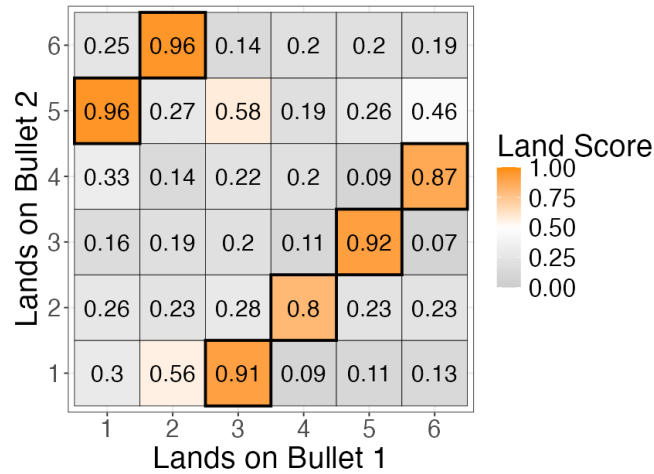

Figure 11. The land-to-land score matrix.
- BulletAnalyzr measures the similarity between each land in Bullet 1 and each land in Bullet 2 (Figure 11). The land-to-land score matrix shows the similarity score for each pair of lands. Each possible alignment of lands between the two bullets is called a *phase*. Bullets with six lands have six phases. The average similarity score is calculated for each phase, and the highest average similarity score is the bullet similarity score. The land-to-land matrix shows dark boxes around the cells in phase corresponding to the bullet score.